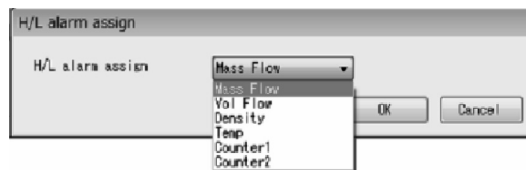

Fig.59
- ③ Click the triangle on the right side of "H/L alarm assign" and select the assignment to set from the drop-down list as shown in Fig. 59.